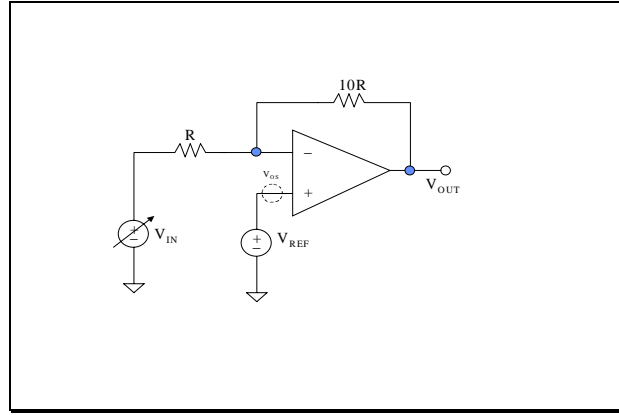

Figure 2.3a: Output Swing Voltage Measurement Circuit
1. Setup the inverting gain op amp circuit as shown in Figure 2.3a.